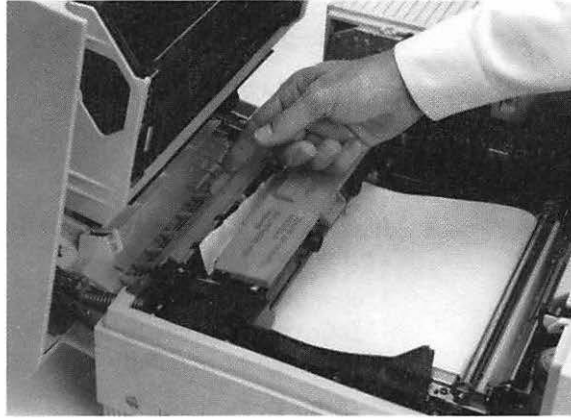

Figure 6-17
4. If the jam is in the fixing roller assembly unit, first open the green felt cover and then pull the paper out. (See Figure 6-17.)